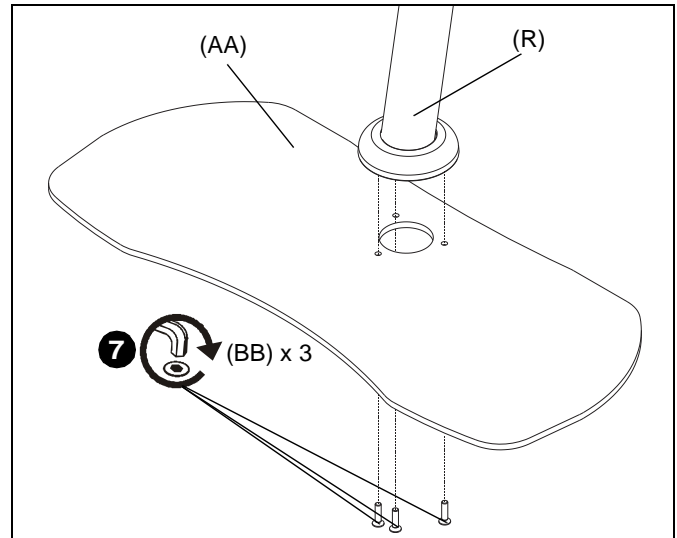

Figure 3
7. Use three 1/4-20 x 7/8" flat head cap screws (BB) to secure table base (AA) to table stand (R). (See Figure 3)